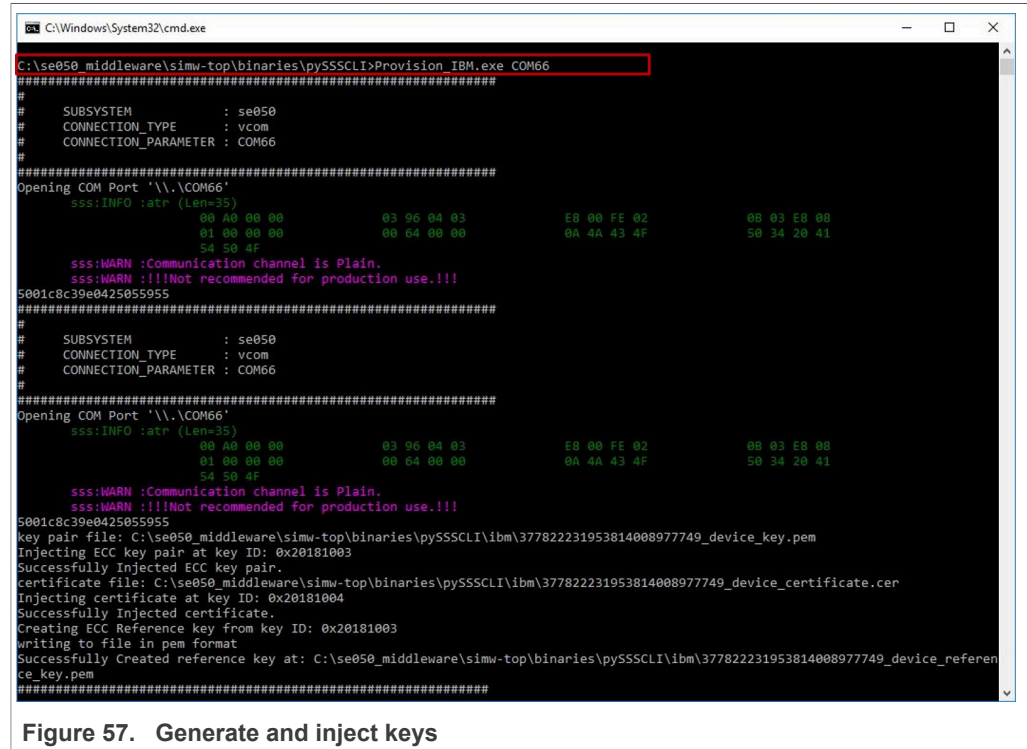

Figure 57. Generate and inject keys
- Run the Provision\_IBM.exe executable as shown in Figure 57: